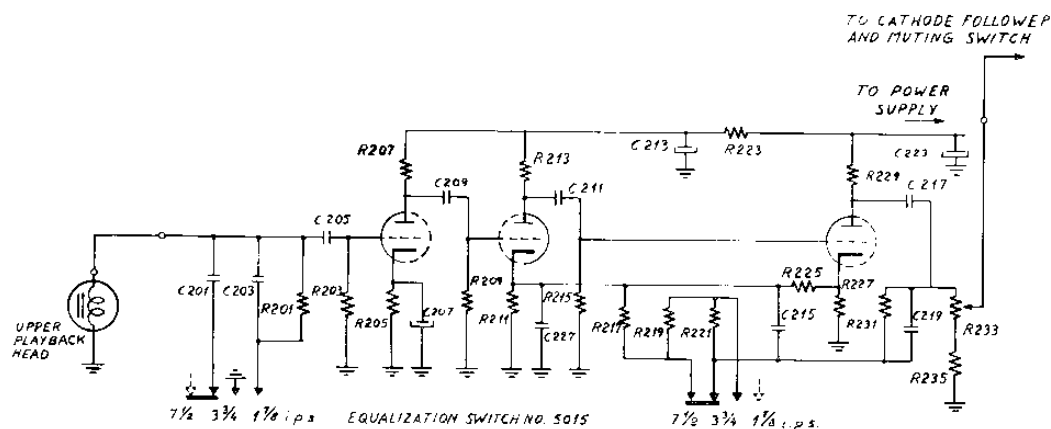

Fig. 24. Playback Amplifier. (Component Numbers for Upper Track).
4.2.3 Playback Amplifier. (Fig. 24).